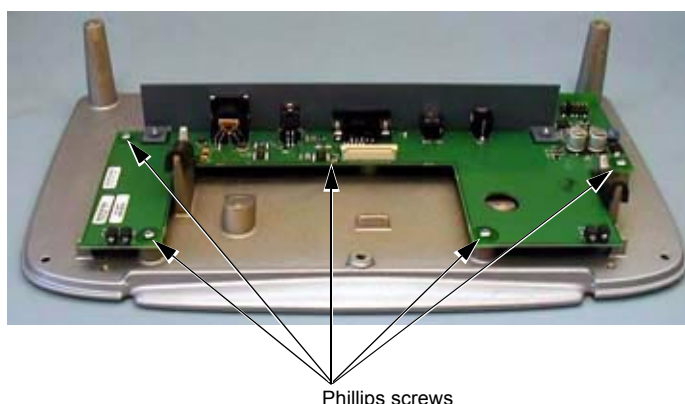

Figure 7.12 Docking Station Head Screws
- 8 The PCBA is removed from the base assembly by removing the five (5) Phillips head screws and lifting off the board. (Figure 7.12)